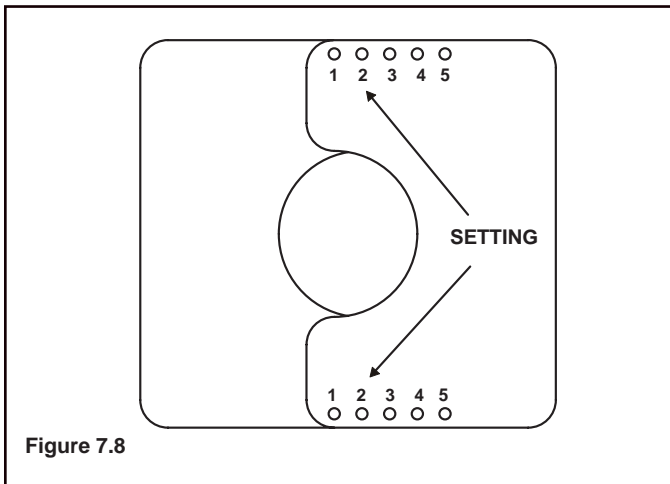

Figure 7.8
3. Center the Flue Restrictor on vent and secure in place by using two self-tapping screws (see Figure 7.8).